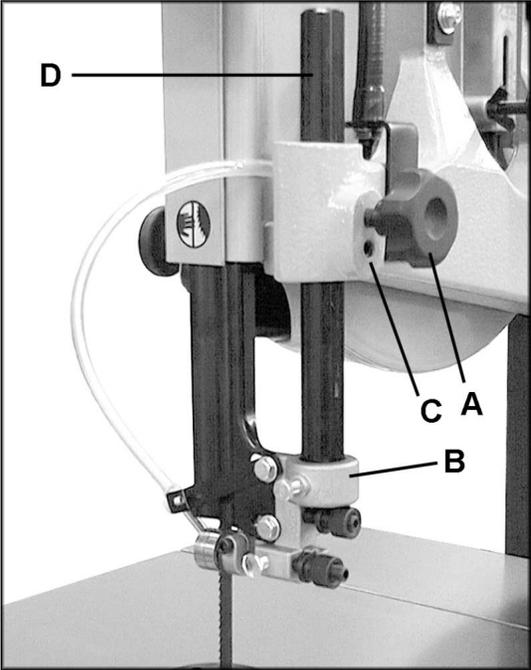

Figure 2
12. Loosen the two hex cap screws holding the metal blade guard assembly to the upper blade guide bracket (B, Figure 2). Remove the air hose bracket, and remove the blade guard.
13. Remove the upper blade guide bracket (B, Figure 2) from the guide post (D, Figure 2).
14. Loosen the guide post lock knob (A, Fig. 2). Loosen, but do not remove, the set screw (C, Figure 2) to release tension on the guide post.
15. Tighten set screw (C, Figure 2).
16. Attach the upper blade guide bracket (B, Figure 2) to bottom of new, longer guide post.